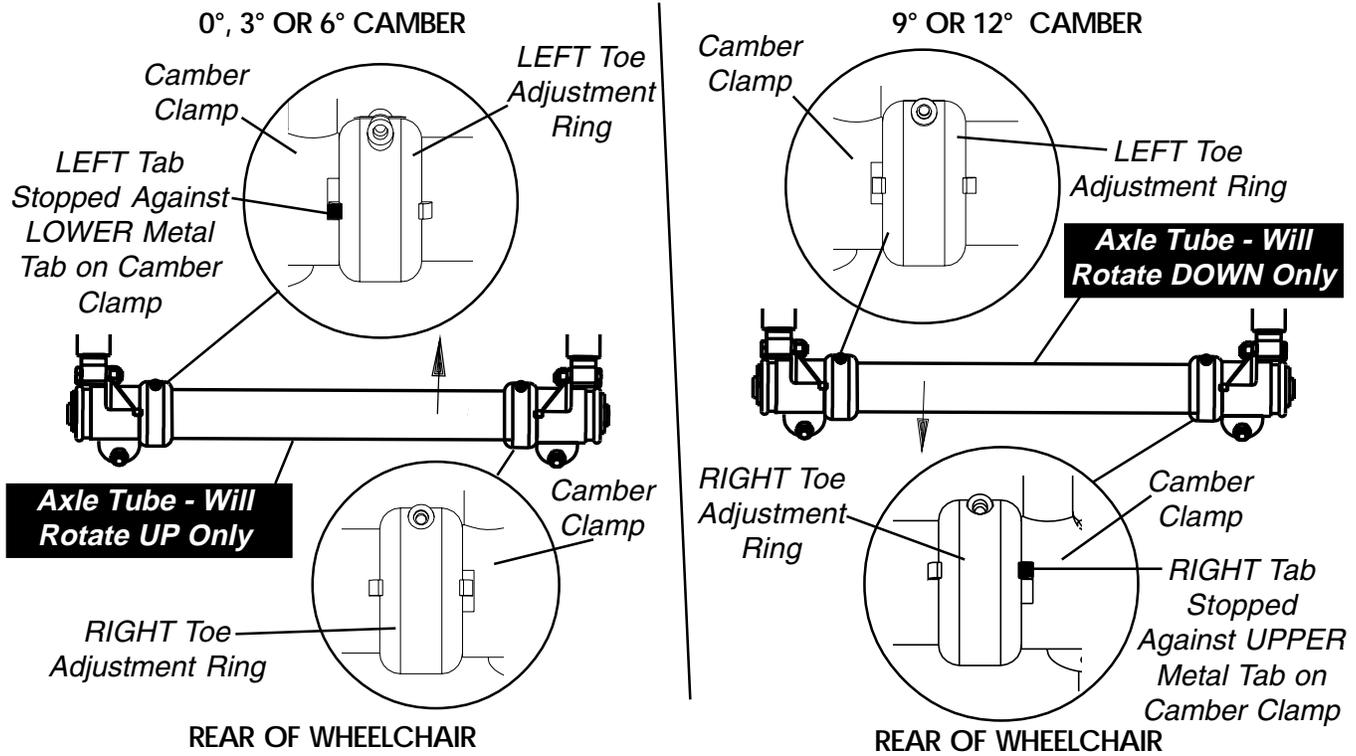

FIGURE 8 - ADJUSTING TOE IN/TOE OUT
**Axle Tube Positioning For 0°/3°, 0°/6°, 3°/6° or 9°/12° Camber Inserts (FIGURE 8)**
*NOTE: Refer to FIGURE 8 for a description of a locked out axle tube.*
**Axle Tube Positioning For 0°/9°, 0°/12°, 3°/9°, 6°/9°, 3°/12° Or 6°/12° Camber Inserts (FIGURE 8)**
2. Slowly rotate the axle tube until the tab on the LEFT toe adjustment ring is stopped against the LOWER metal tab on the camber clamp (FIGURE 8).
2. Slowly rotate the axle tube until the tab on the RIGHT toe adjustment ring is stopped against the UPPER metal tab on the camber clamp (FIGURE 8).